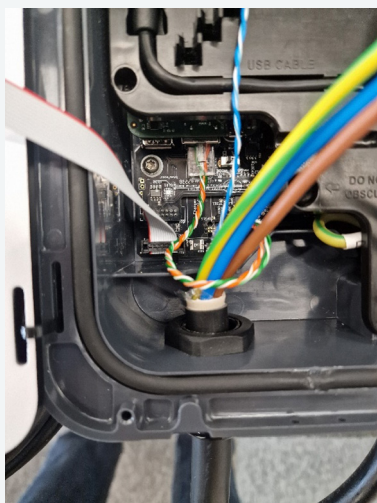

Figure 13: Smart LUX™
- Ensure data cable is routed as per Figure 13 or 14.
- Connect the RJ45 connector into the RJ45 socket on the Beaglebone as per Figure 13 or 14.